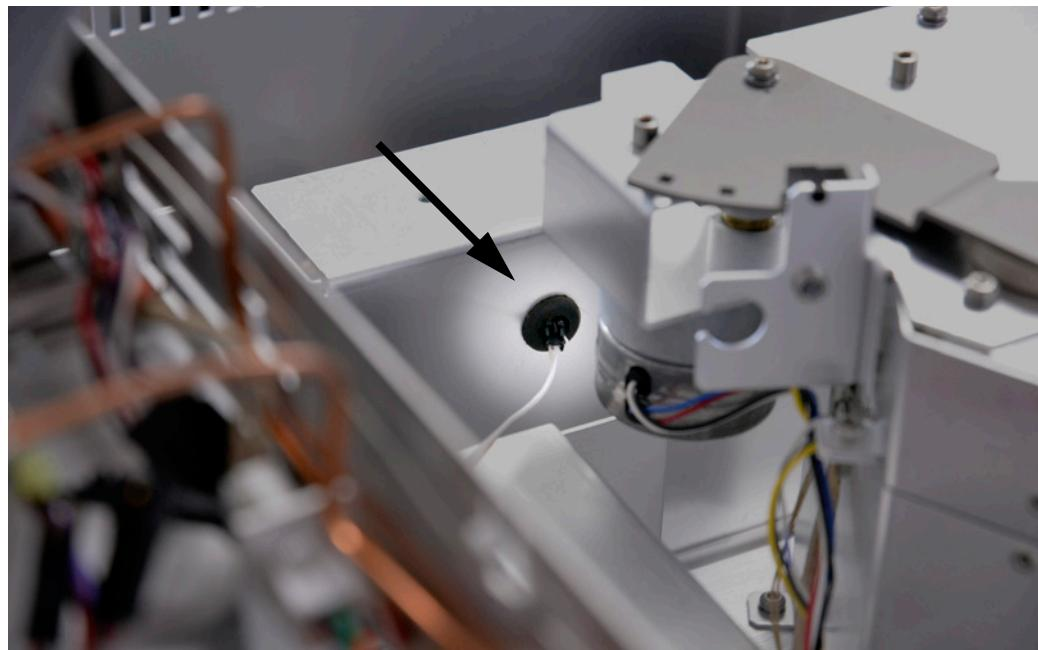

Figure 19 Routing the oven sensor cable
- 5 Route the oven sensor cable through the insulated opening in the headspace chassis as shown in Figure 19.